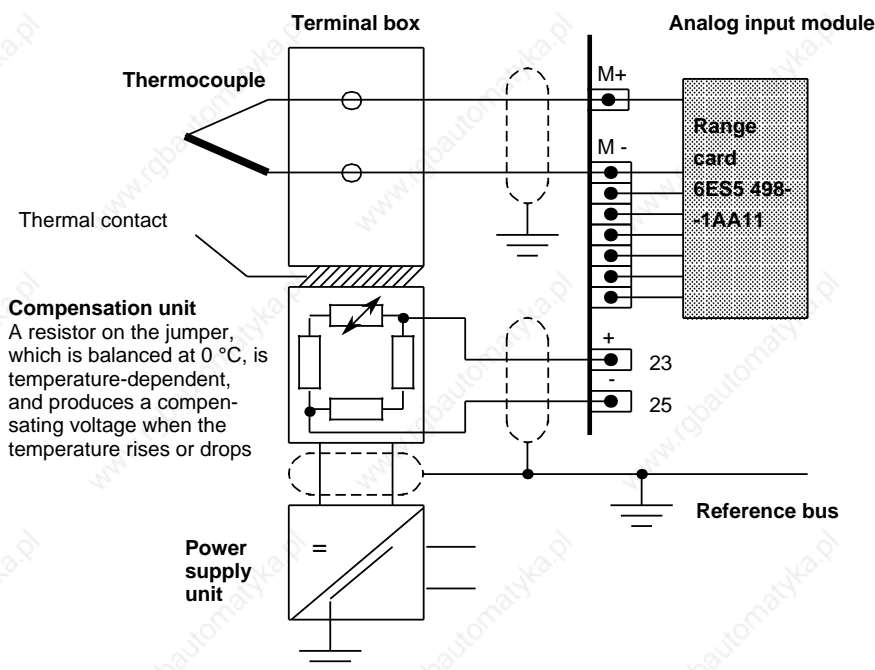

Figure 10-4. Connecting Thermocouples
- Apply compensating voltage to pins 23 and 25 (KOMP+ and KOMP -) on the analog input module (Figure 10-4)